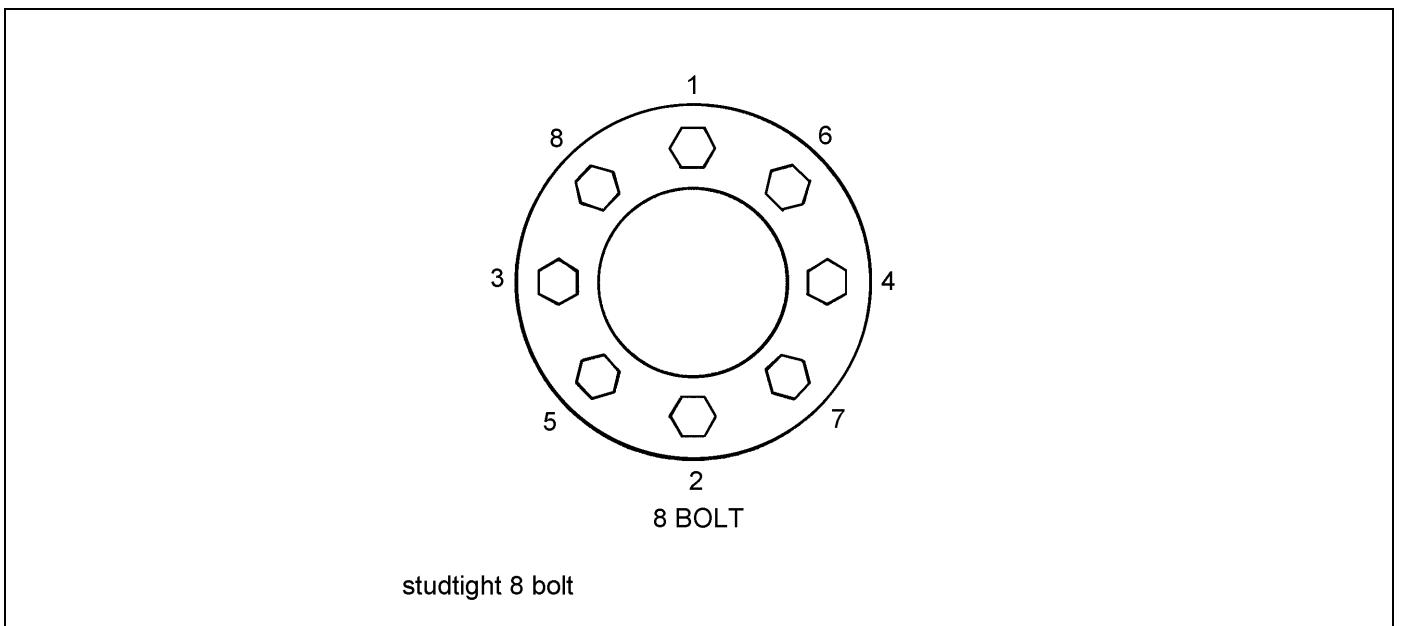

Figure 4-18: Stud Tightening Sequence
4. Install the flange nut and tighten to 50 foot-pounds using the sequence in **Figure 4-18**. Then tighten to full torque of 500 to 550 foot-pounds, using the same sequence.